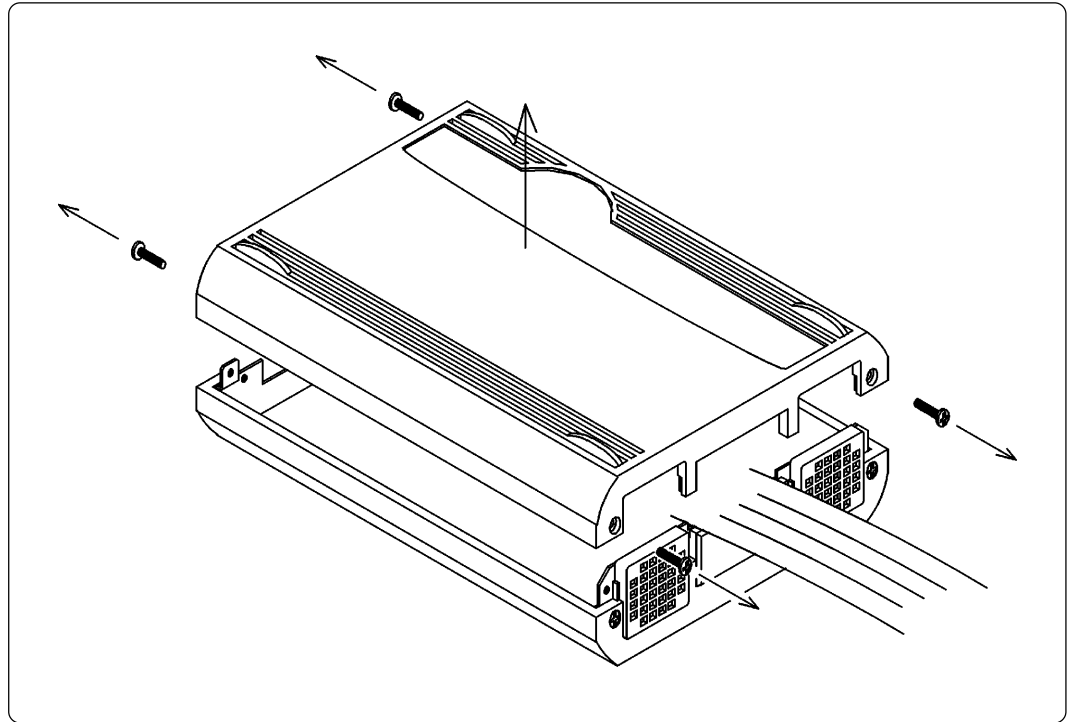

Figure 3.1 Removing the upper cover
1. Remove the four screws of both sides of this product and lift off the upper cover (see Figure 3.1).